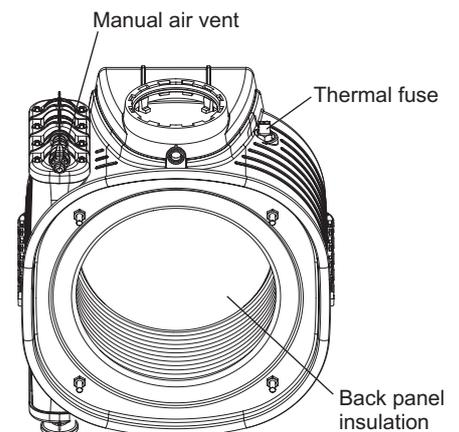

Fig. 7.4
Back panel insulation - Fig. 7.4
7.18 HEAT EXCHANGER THERMAL FUSE - Fig. 7.4